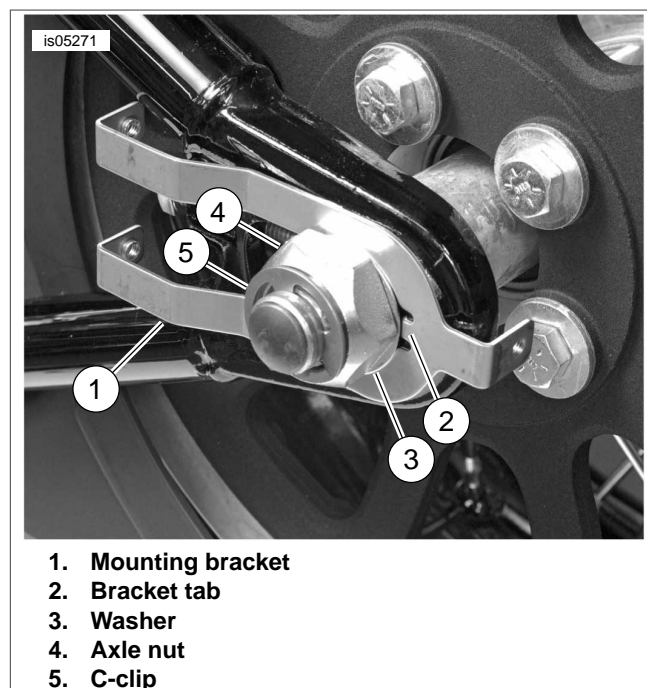

Figure 1. Install Mounting Brackets
4. See Figure 1. Position one mounting bracket (1) on left swingarm, as shown. Move bracket toward rear of swingarm so tab (2) is touching the inside edge of axle slot in swingarm.
6. Complete axle bracket installation by reinstalling thrust washer (3) (from kit) and nut (4) removed in Step 2. Tighten axle nut to 60-65 ft-lbs (81-88 Nm).
7. Install C-clip (5) to left side axle slot.